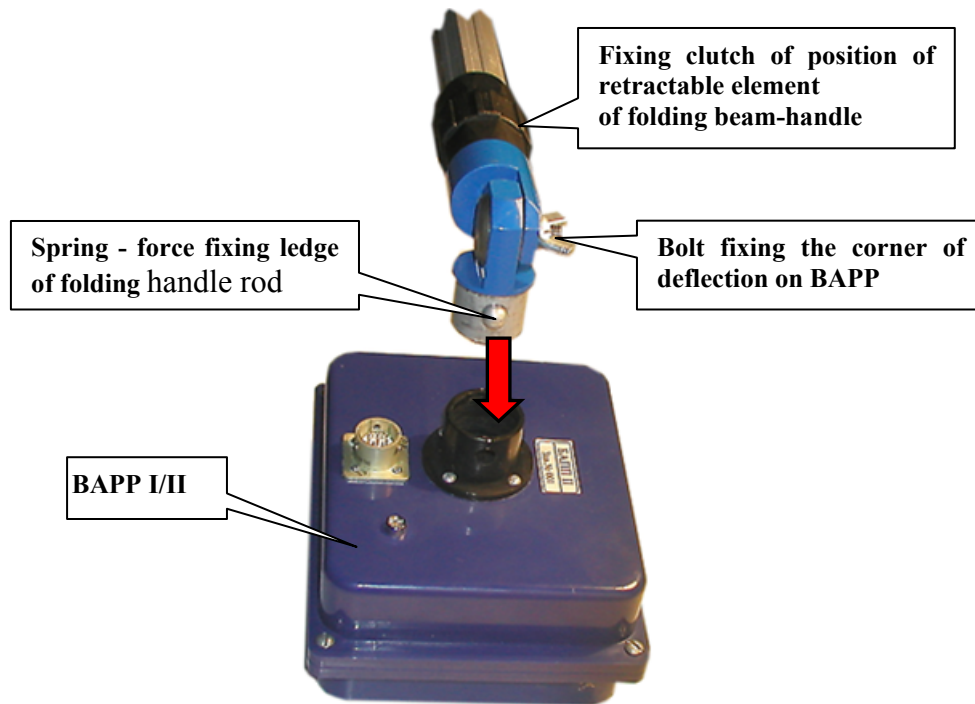

Figure 3.1.1. BAPP Supporting to the folding handle rod.
3. Fix BAPP on the foldable handle rod in such away that spring-force fixing ledge of foldable handle rod is to be correspond to the socket of the supporting element on the BAPP case (figure 3.1.1);
10. On releasing the screw fixing the turn angle of BAPP, adjust the angle of slope of antenna unit in relation to a handle rod (figure 3.1.1).